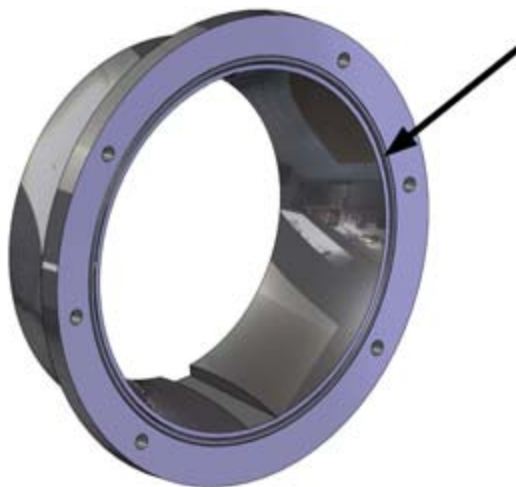

Figure 86. Choker seal
3. Remove the old seal (figure 86).